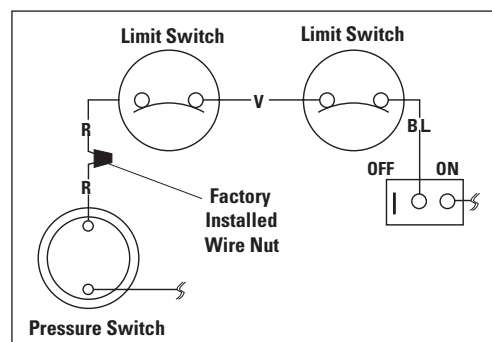

Figure 3-28 — Hayward Heater Wiring Before Modification
5. Remove factory-installed wire nut between two (2) red wires labeled "CONNECTION FOR FIELD INSTALLED CONTROL SWITCH" (see Figure 3-28).